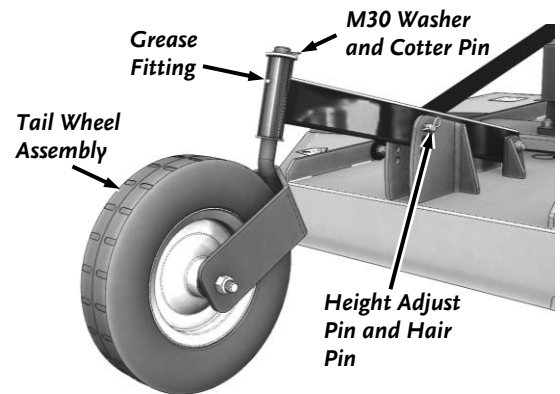

Figure 8
6. Install the Tail Wheel to the Wheel Arm and secure it using the M30 Washer and Cotter Pin (Figure 8).